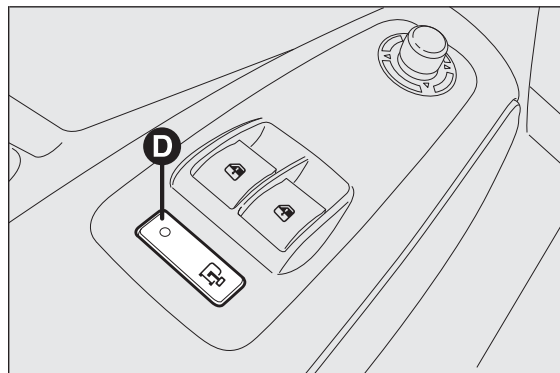

fig. 116
- ☐ after each door lock command generated by the button D fig. 116 or by button  in the dashboard;